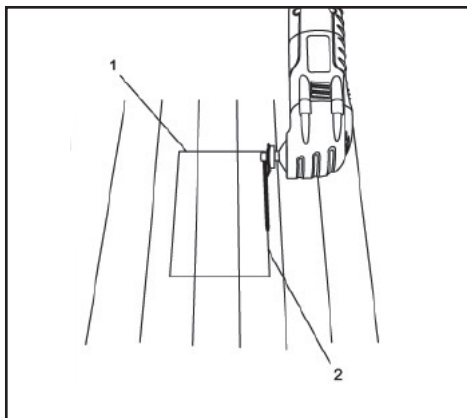

Fig. 8
2. Place the floor vent on the floor and use a soft lead pencil to trace the required rectangular hole (1) on the flooring (Fig. 8).